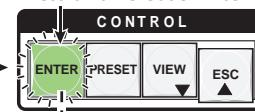

Figure 16. Replacing Ties — an Example
3. Press and release the output 1 button. This button flashes the same color as the input button, and the Enter button flashes green. The other tied buttons (3 and 6 in this example) remain lit (see **figure 16**).